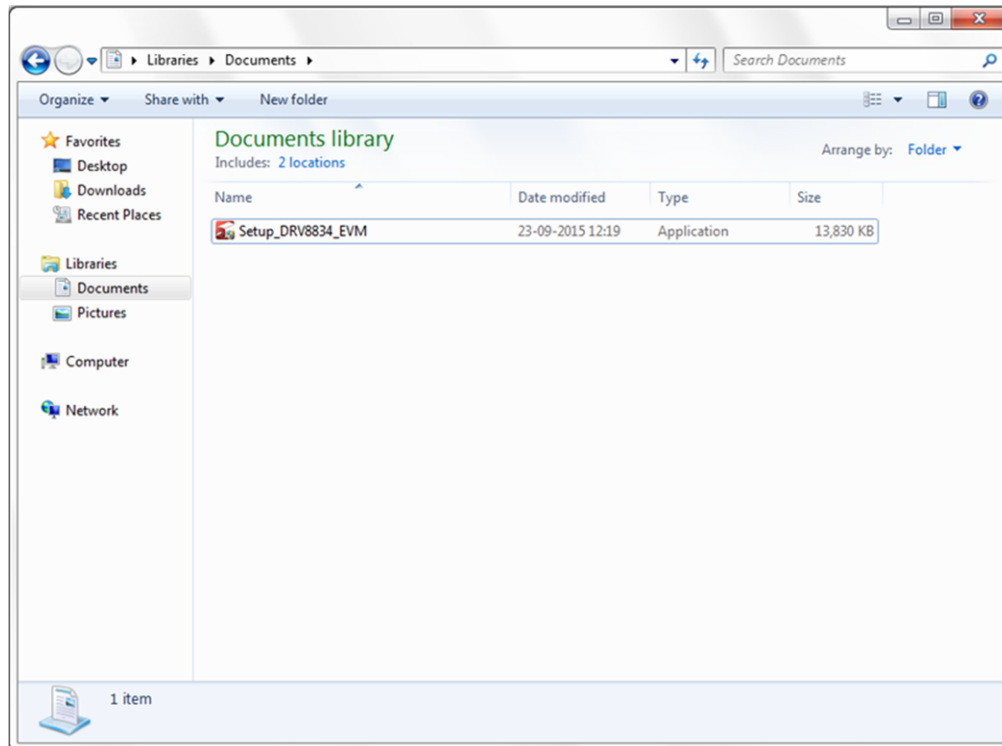

Figure 2. Setup_DRV8834_EVM.exe
1. Double click on the **Setup_DRV8834_EVM.exe** as shown in Figure 2.